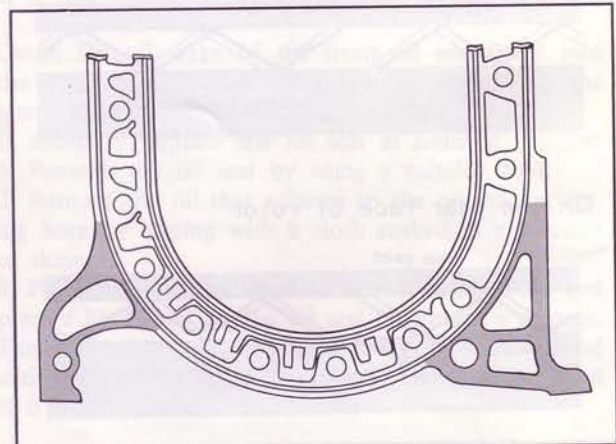

Fig. 1-65 Applying sealing agent
1. Apply sealing agent onto the front side of the rotor housing, as shown in Fig. 1-65.